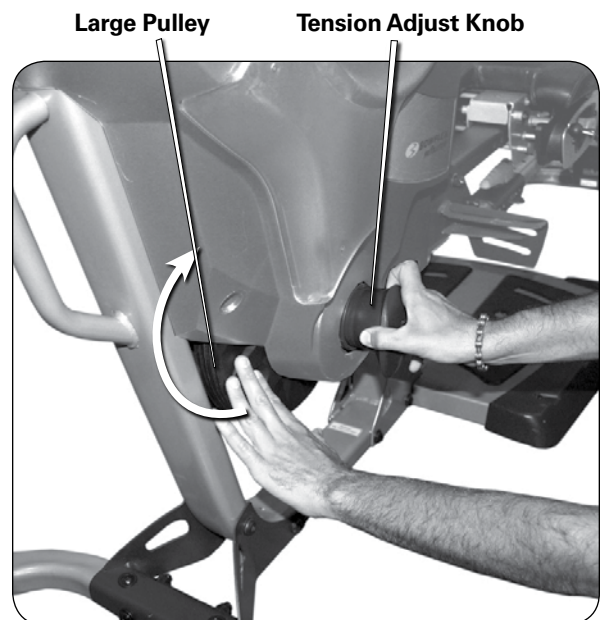

Figure 15
- 15-1** Pull out Tension Adjust Knob and rotate Large Pulley in a clockwise direction until it stops, then release the Tension Adjust Knob to lock. See **Figure 15**.